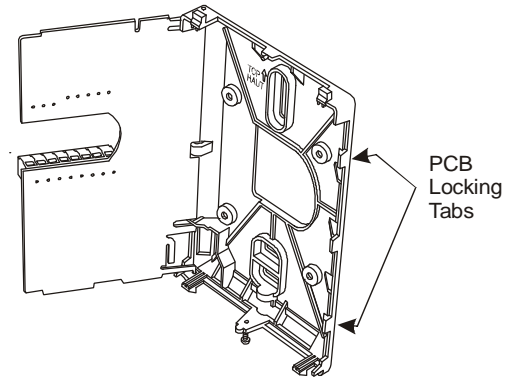

Figure 2: Opening the Thermostat Controller PCB
3. Carefully pull the locking tabs on the right side of the thermostat mounting base and unlock the PCB. Open the PCB to the left as illustrated in Figure 2.